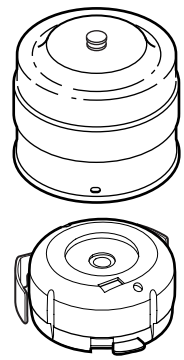

Figure 1
2. Slide code switches to the same positions as set on your transmitter (Figures 1 and 2).